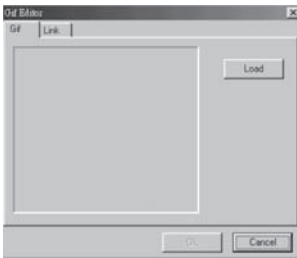

Fig. 4.28
1. Click the button and move the mouse to the **drawing interface**, the dialogue block as in Fig. 4.28 will be displayed.
1. Click the **quick icon**  and move the mouse to the **drawing interface**, then the dialogue frame, as in Fig. 4.28, will be shown in the system as below.